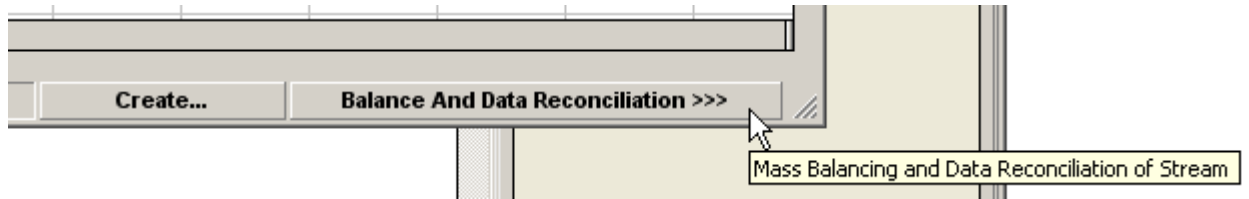

Figure 10. Press "Balance and Data Reconciliation >>>" button.
1. Press “Mass Balancing and Data Reconciliation>>>” in the Analyses – window (Figure 10).